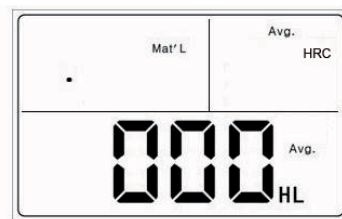

Fig.4.5
2) If you want to calibrate the HRC, HRB, HB, HV, HSD, you have to press and hold the “browse” button then press the “date / time” button, At this time the scale what you want to calibrate will be display.(Fig.4.5)